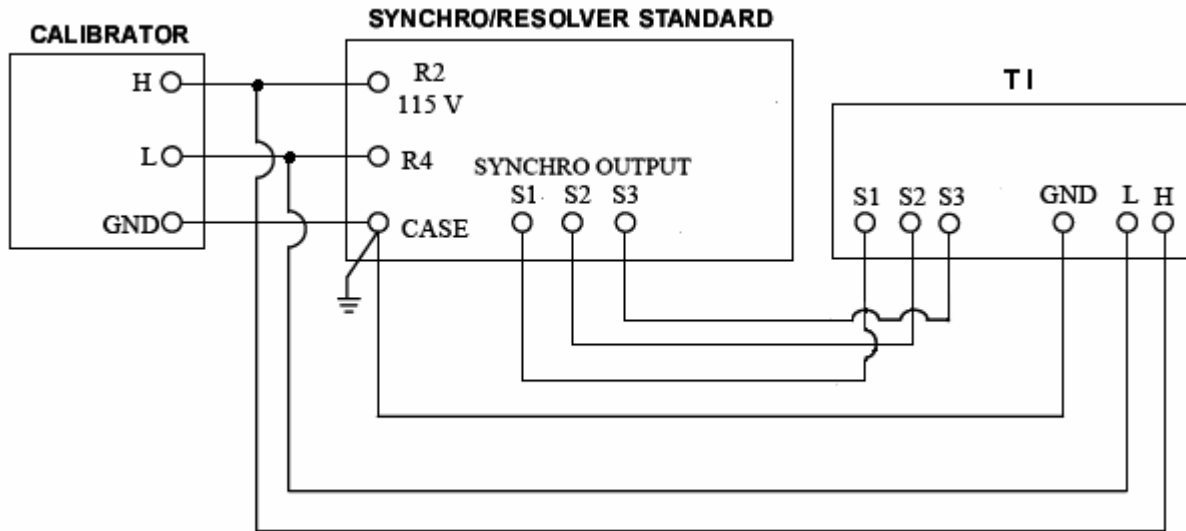

Figure 2. Synchro accuracy equipment setup.
- (1) Connect equipment as shown in figure 2.
- (2) Press **SYN** pushbutton.
- (3) Set synchro/resolver standard **E_s (MAX) OUTPUT** switch to **90 V**, decade control switches to 000.0000 degrees and type switch to synchro operation. Verify that **TI 90 V LED** illuminates.